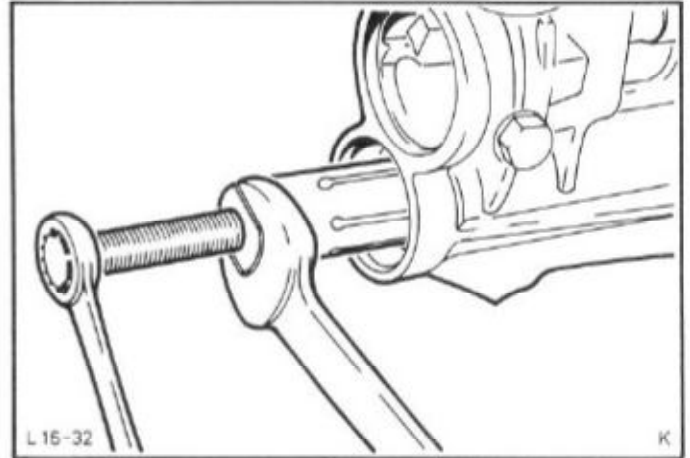

Fig.116. Extract extension housing bush.
6. Remove extension housing bush using Special Tool 16-011, Fig.116.